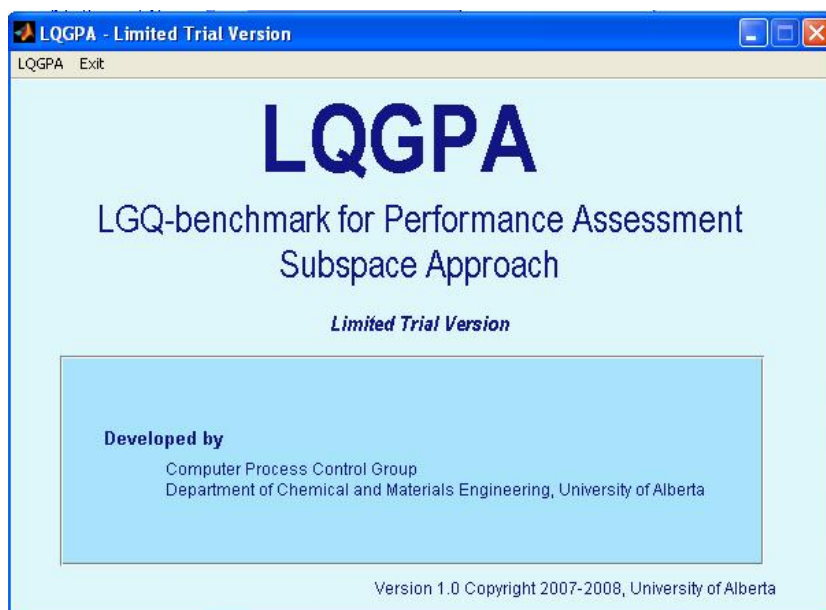

Figure 1: The First GUI that appears
- 3) At the command prompt, type “>>**main\_LQGPA**” to start the toolbox. The GUI shown in Figure 1 should appear.